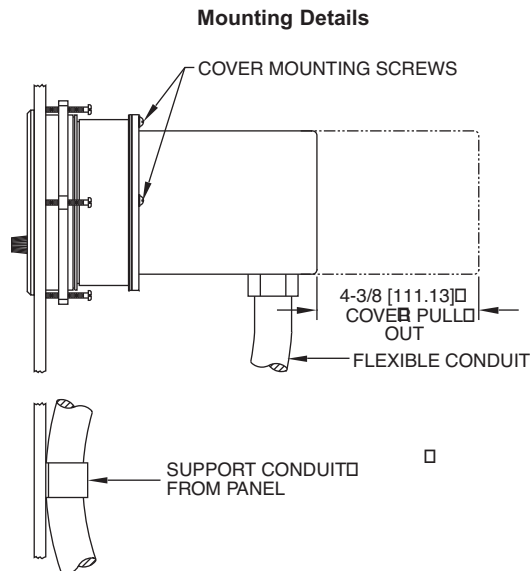

Fig. 5
The amplifier-relay unit has an easy to remove housing. Remove the three (3) screws as shown in Fig. 5 and slide the housing off. Make all the electrical connections before reinstalling and refastening the housing.
Electrical access to the connection box portion of the relay housing is by bottom opening for 3/4" conduit. Use of flexible conduit is recommended. It should be supported from the panel or other suitable surface to prevent the wiring system from exerting undue strain on the instrument. See Fig. 5.